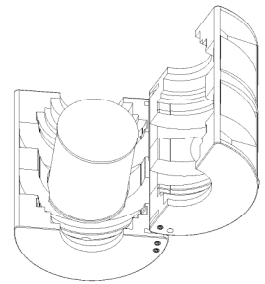

Figure 2
- **Pint Cans:** Place round pint cans vertical, with the lid up. Close the **6783756** adapter around the can. (See Figure 2)